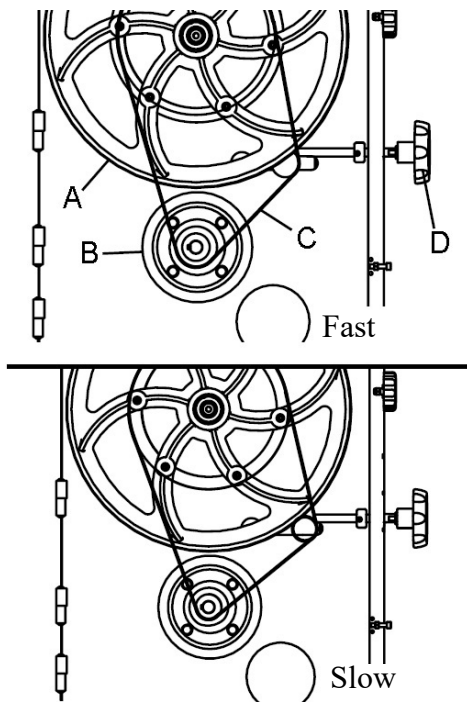

Fig. 17: Saw band speed
The wood band saw has a high and a low saw band speed. On the lower impeller (Fig. 17; A) and two belt pulleys of different sizes are mounted on the motor.
Step 1: Turn the handwheel (Fig. 17, Pos. D) to release the tension of the V-belt (Fig. 17, Pos. C).
Step 3: Then retighten the V-belt using the handwheel (Fig. 17, Pos. D).